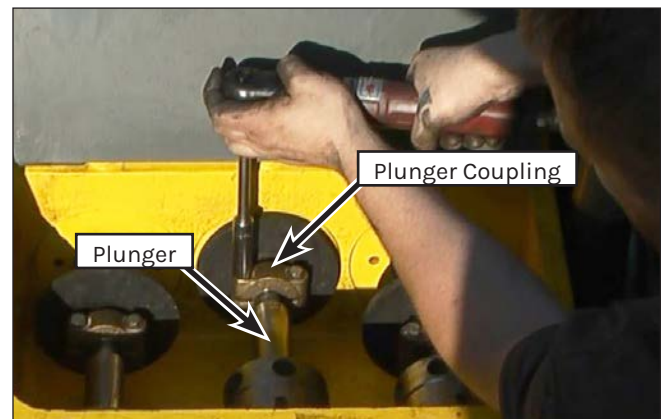

Figure 88: Plunger Coupling Removal.
7. Remove the two bolts that secure the plunger coupling (Figure 88) to the plunger and remove the coupling. Push the plunger into the stuffing box for clearance.